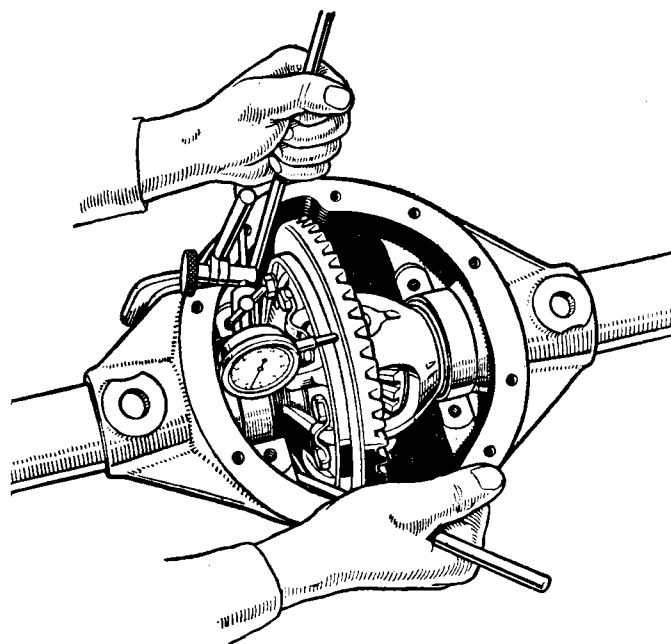

Fig. 11. *Differential bearing adjustment.*
- (1) Fit the differential bearings, without shims, on the differential case, making sure that the bearing cones and cups and the housing are perfectly clean.
- (2) Place the differential assembly, with the bearing cups in their housing, within the gear carrier, the pinion not being assembled.
- (3) Install the dial indicator set on the gear carrier with the button against the back face of the drive gear.
- (4) Inserting two levers between the housing and the bearing cups, move the differential assembly to one side of the carrier, as shown in Fig. 11.
- (1) Place the differential assembly with bearing cups, and less shims, in the housing, being sure that the bearing cones, cups and housing are perfectly clean.
- (2) Install a dial indicator on the housing with the button on the back face of the drive gear as shown in Fig. 11.
- (10) Mount a dial indicator on the gear carrier housing with the button against the back face in a similar manner to that employed for differential bearing adjustment, as shown in Fig. 11. Turn the pinion by hand and check the run out on the back face, which should not exceed .005" (.13 mm.). If there is excessive run out, strip the assembly and rectify by cleaning the surfaces locating the drive gear. Any burrs on these surfaces should be removed.